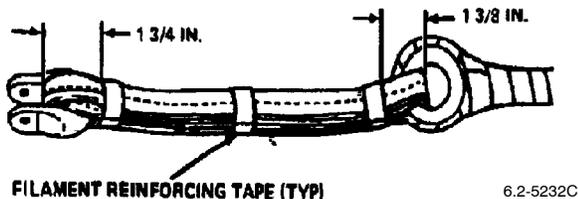

Figure 15. Wrapping with Filament Tape
c. Wrap with four turns of electrical insulation tape in three places (Figure 15).